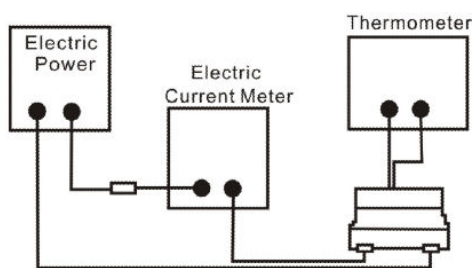

Fig.6.3.4-1
- Definition of Temperature rise current: DC current that causes the temperature rise ( $\Delta T = 40^\circ\text{C}$ ) from  $20^\circ\text{C}$  ambient (see Fig. 6.3.4-2).